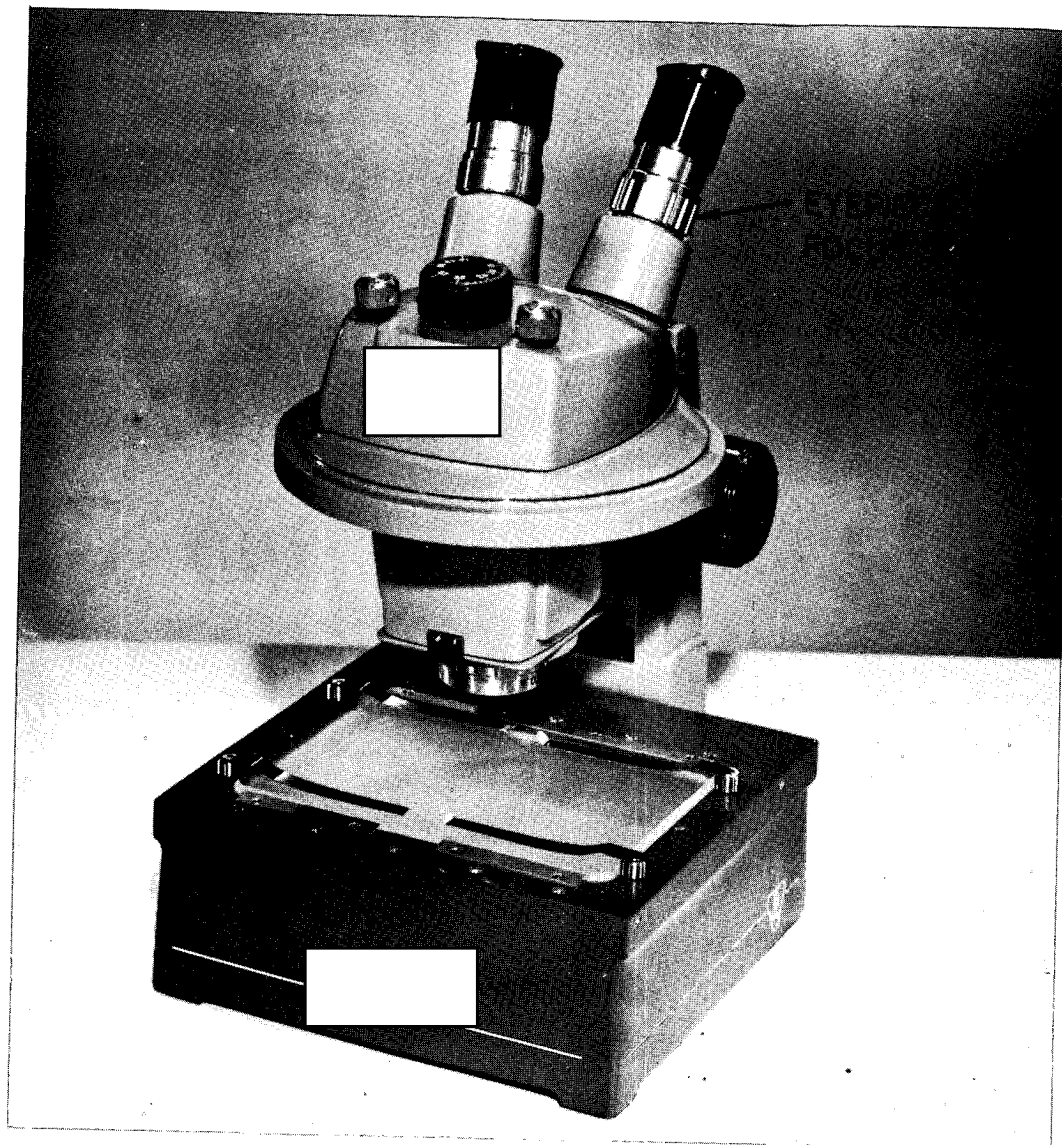

FIGURE 1
- 2.2 Remove the focusing sleeve (figure 1) by unscrewing from the stereoscope.